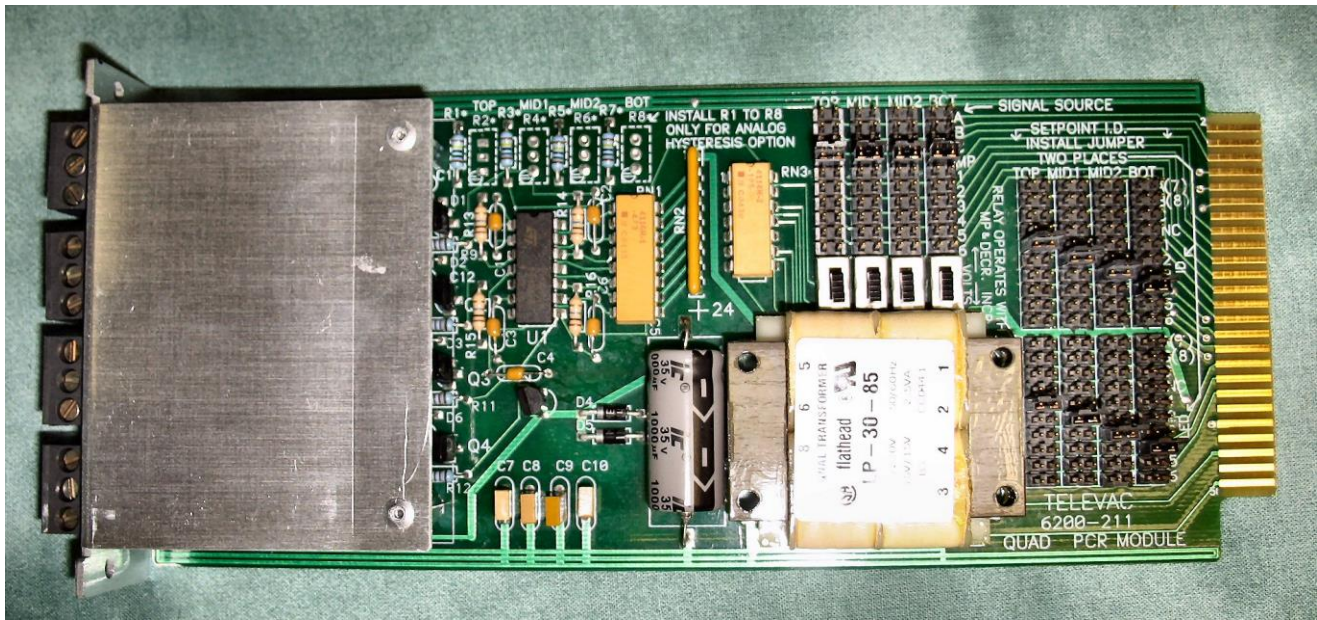

Fig. 9.1a - Setpoint Relay Module
SETPOINT RELAY MODULE - A setpoint process control relay module is shown in Fig. 9.1a. The assignment of identification numbers for this module (usually done at the factory) is accomplished by placing jumpers on the appropriate pins in the SETPOINT ID section of the module. Note that two (2) sets of jumpers are required. The SIGNAL SOURCE section is used for the MM200 and jumpers should be installed in all four MP locations. Switches S1 through S4 should be set in the "MP" (or upper) position. See Fig. 9.1b for details.